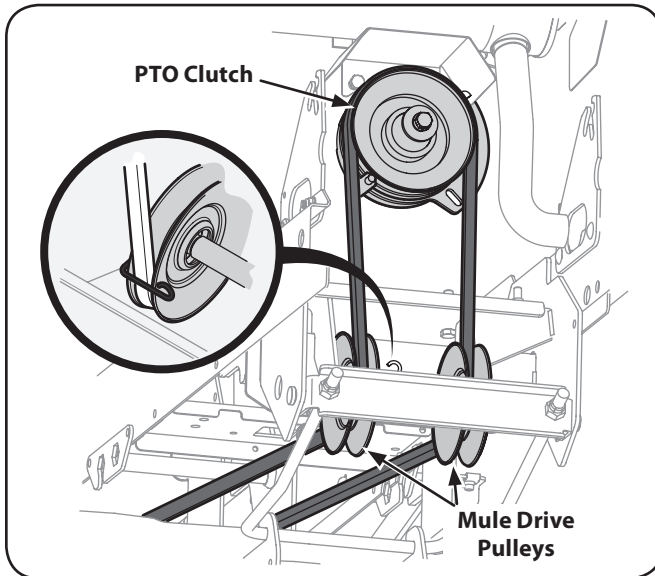

Figure 2-4
1. Working from the front of the tractor, route the belt around the PTO clutch pulley, with the 'V' side of the belt seated in the pulley. Carefully feed the belt downward and route it in the two mule drive pulleys. See Fig. 2-4.